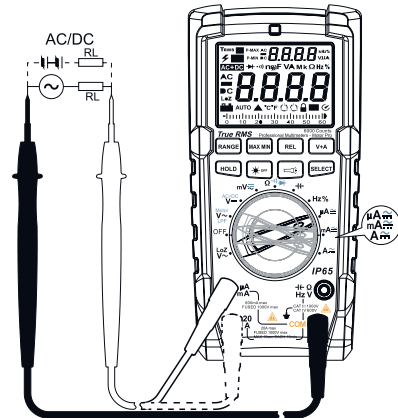

Figure 7
10. AC/DC Current Measurement (See Figure 7).